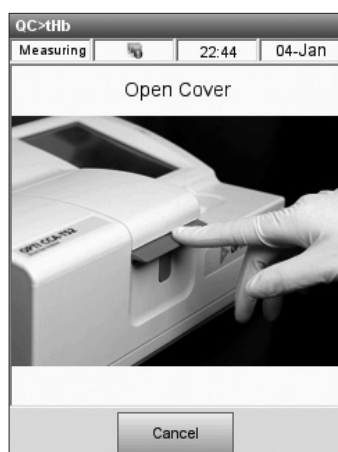

Fig. 7-7 Open Cover
5. At the prompt, open the SMC cover by pressing down on the center of the red latch (Fig. 7-7).